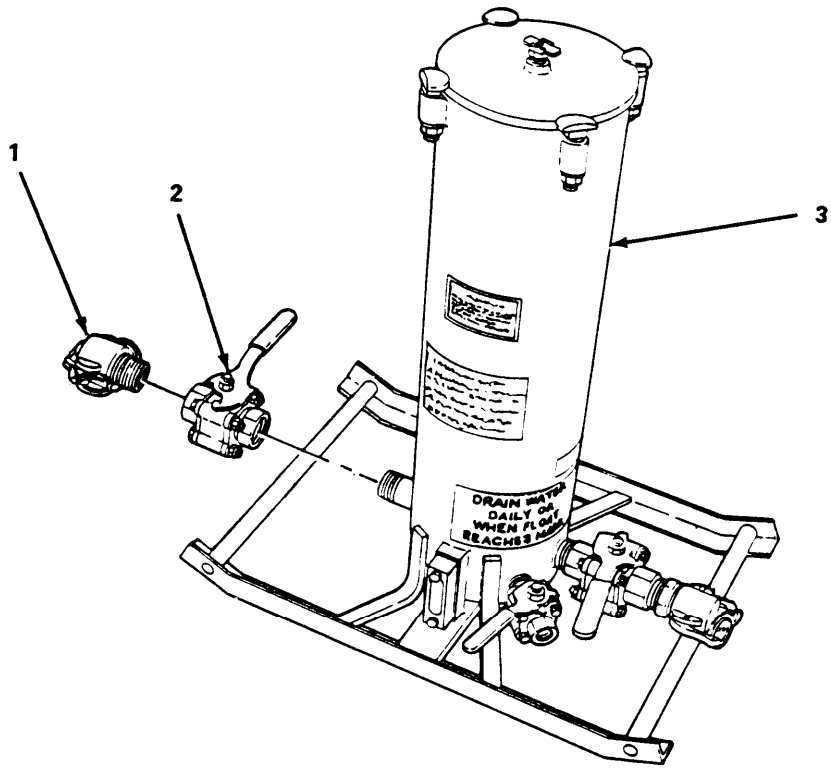
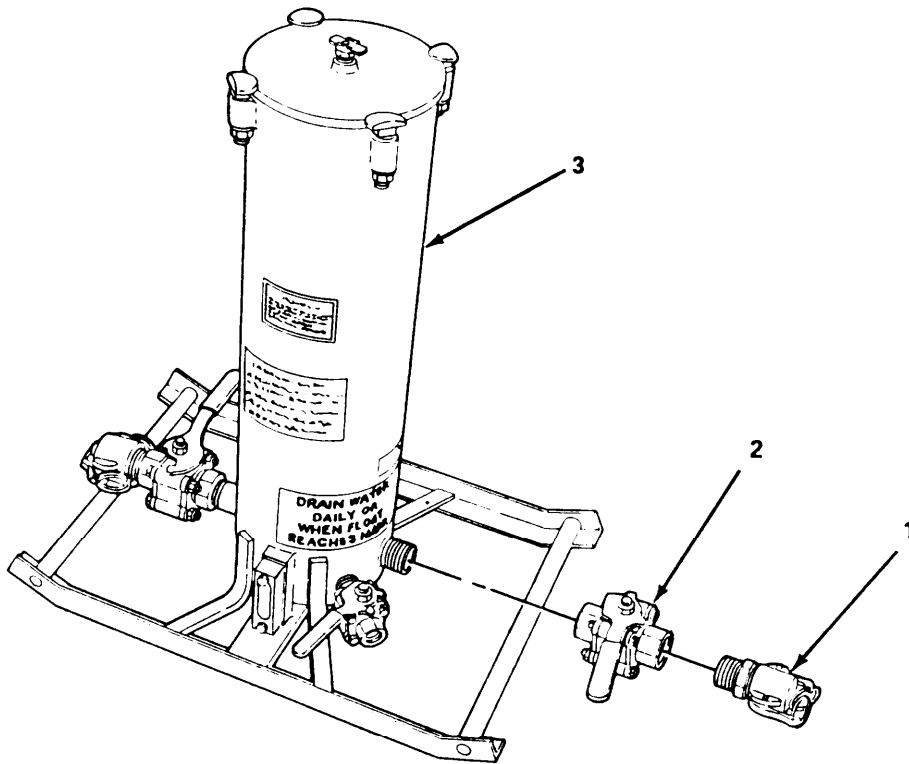

Figure 4-6. Inlet Valve, Repair.
Figure 4-7. Outlet Valve, Repair.
Repair.**(1) Inlet valve. (figure 4-6)**
- (a) Remove quick disconnect (1) from inlet valve (2).*
- (b) Remove inlet valve (2) from tank (3).*
- (d) Install inlet valve (2).*
- (e) Install quick disconnect (1).*
(2) Outlet valve. (figure 4-7)
- (a) Remove quick disconnect (1) from outlet valve (2).*
- (b) Remove outlet valve (2) from tank (3).*
- (d) Install outlet valve (2).*